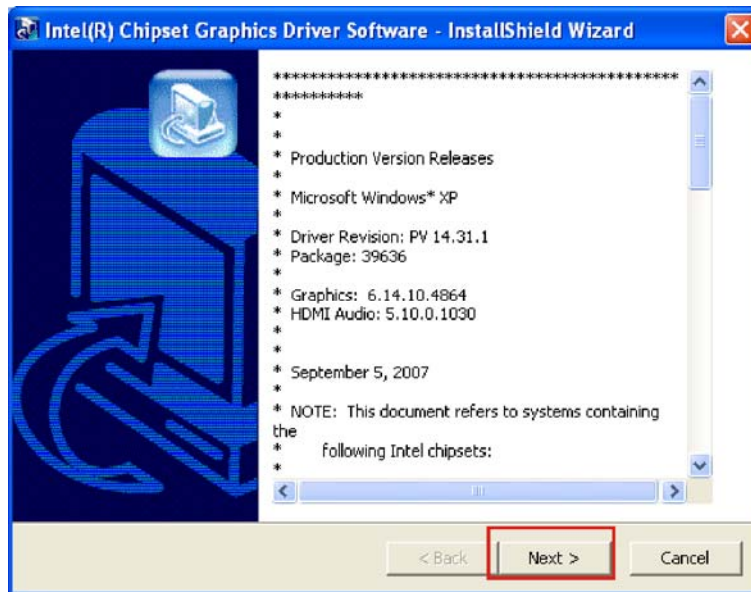

Figure 6-9: Graphics Driver Readme File
Step 4: The version information file appears (Figure 6-9).